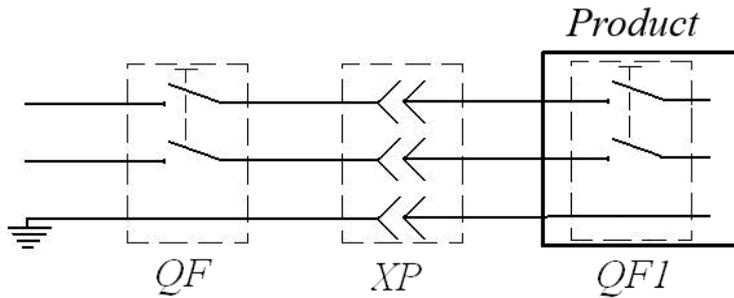

Fig. 4. Power connection diagram
- connect the showcases to the supply mains (Fig.4) via an automatic circuit breaker of combined (thermal and electromagnetic) protection with a rated current value of: